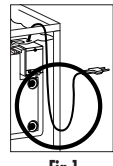

Fig.1
- To avoid the possibility of the appliance plug or receptacle getting wet, position the appliance to one side of a wall-mounted receptacle and prevent water from dripping onto the receptacle or plug. A "drip loop" (Fig. 1) should be arranged for the cord connecting the appliance to the receptacle. The "drip loop" is that part of the cord below the level of the receptacle or the connector, if an extension cord is used, to prevent water travelling along the cord and coming in contact with the receptacle.